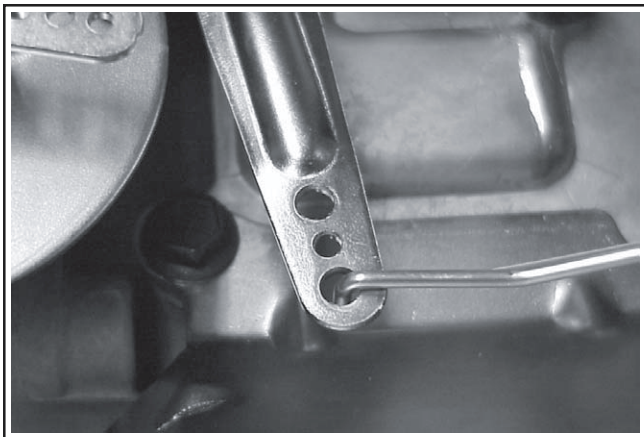

Figure 5B-36. Throttle Link in Center of Hole.
4. Check how the end of the throttle linkage aligns with the bushing hole in the governor lever. See Figure 5B-36. It should fall in the center of the hole. If it doesn't, perform the adjustment procedure as follows.